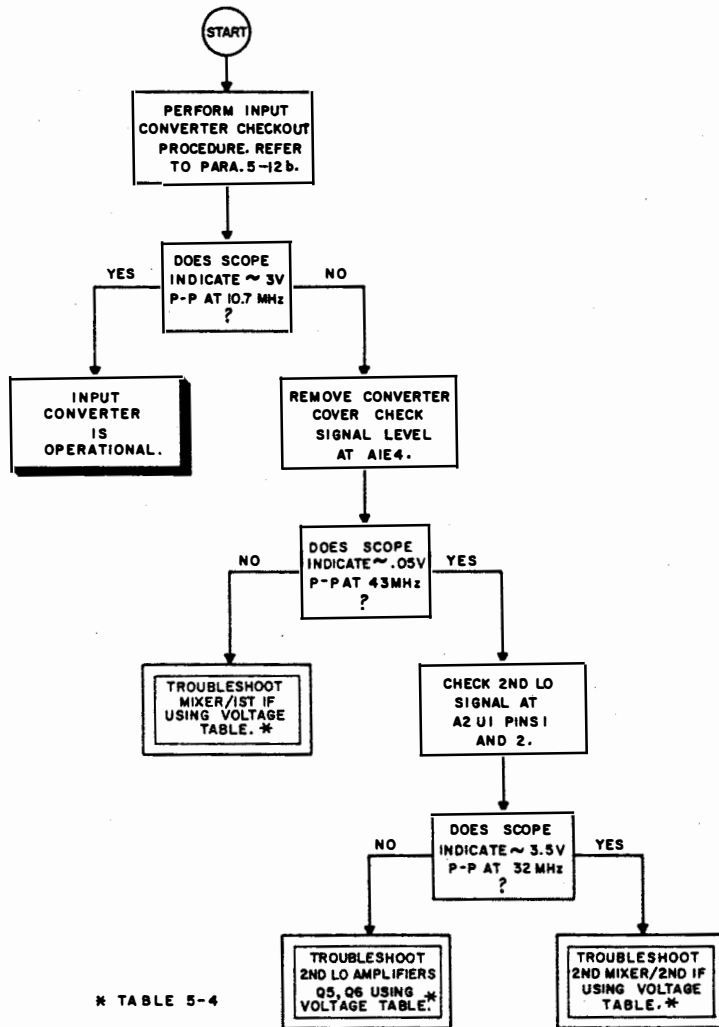

Figure 5-10. Input Converter Fault Logic Diagram
(1) Figure 5-10, Input Converter Fault Logic Diagram.
(2) Table 5-4, Input Converter Voltage Table.
(3) FO-3, Input Converter Schematic Diagram.
(4) Input Converter circuit description, paragraph 3-20.